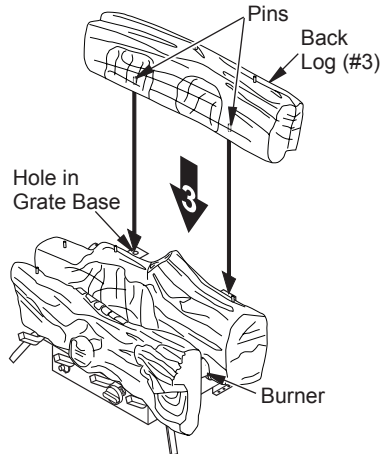

Figure 20 - Installing Back Log #3
3. Locate pins on bottom of back log (#3). Slide these pins into holes in grate base behind burner (see Figure 20).